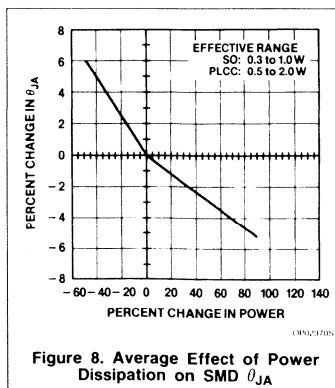

Figure 8. Average Effect of Power Dissipation on SMD  $\theta_{JA}$
The data presented in this application note was run at constant power dissipation for each package type. The power dissipation used is given under Test Conditions for each graph. Higher or lower power dissipation will have a slight effect on thermal resistance. The general trend of thermal resistance decreasing with increasing power is common to all packages. Figure 8 shows the average effect of power dissipation on SMD  $\theta_{JA}$ .
- Determine  $\theta_{JA}$  @ 0.5W using Average Effect of Power Dissipation on AMD  $\theta_{JA}$ , Figure 8.
From Figure 8: